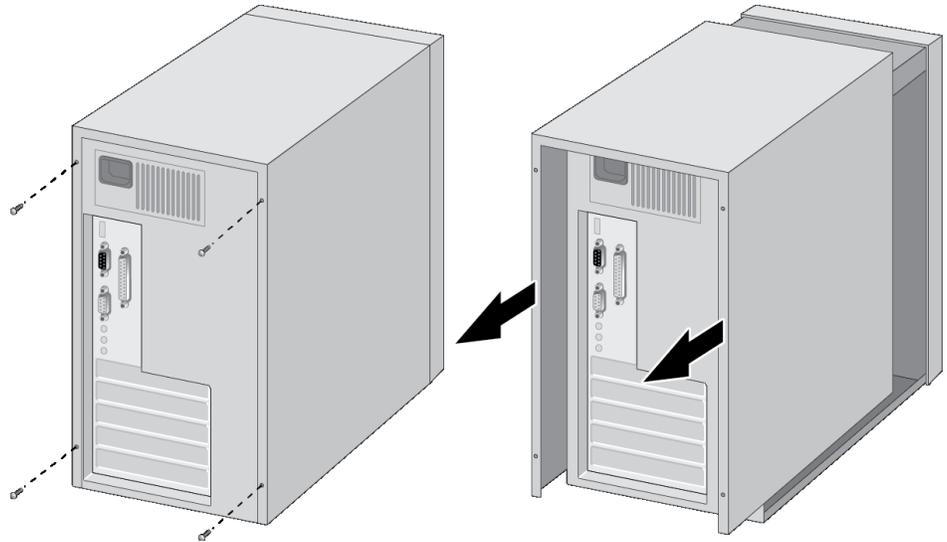

Figure 9. Removing the PC Cover
2. Remove the system cover and select any empty PCIe slot. See Figure 9 on page 35.